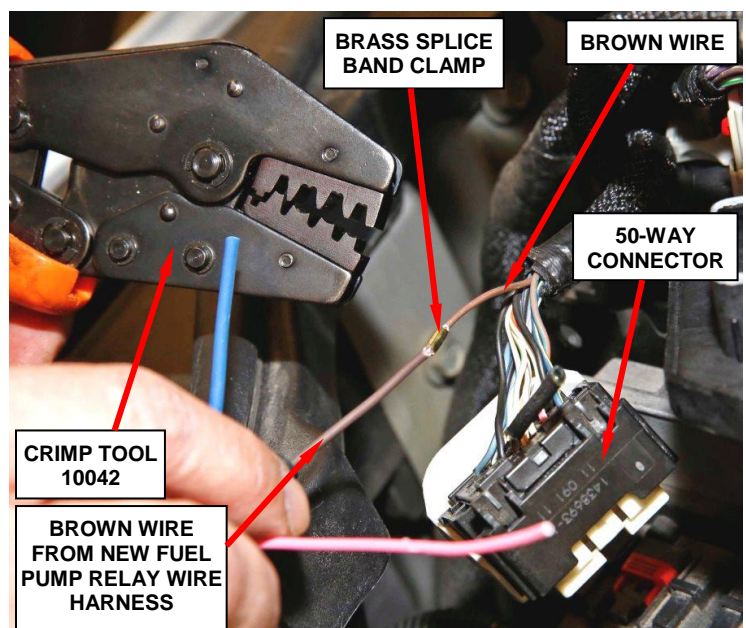

Figure 17 – Crimp and Solder Brown Wires
c. Using the supplied brass splice band clamp and crimp tool 10042, crimp the brown wire on the wire harness side to the brown wire on the new fuel pump relay harness (Figure 17).